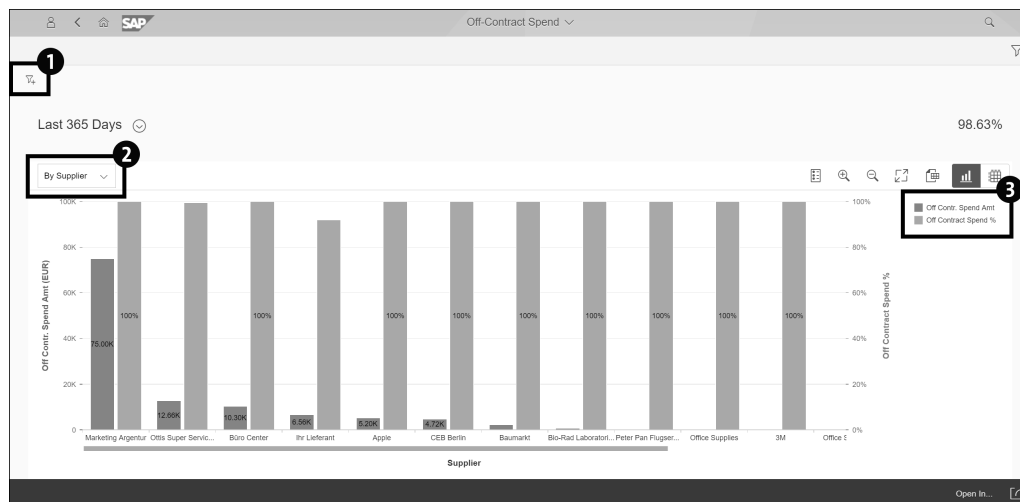

Figure 8.16 Off-Contract Spend
Often, purchases are made without a negotiated price for materials or services. Procurement managers always want to know how much or what percentage of materials are procured outside of negotiated contracts. Analyzing this information helps buyers determine the types of products and areas in need of further contracts and negotiated prices. The Off-Contract Spend app (Figure 8.16) enables the buyer to analyze and control such purchases, resulting in improved procurement processes and reduced costs.
In Figure 8.16 ❶, you can filter by calendar week/month/quarter/year, company code, supplier, supplier country, material, plant, purchasing group/organization, material group, purchasing category, purchasing order, currency, and who it was created by. You may select **By Supplier** to search by supplier, by purchasing category or material group, by purchasing group or organization, plant, cost center or WBS element, document, or trend ❷. Note that the table is coded by **Off Contr. Spend Amt** and **Off Contract Spend %** ❸.